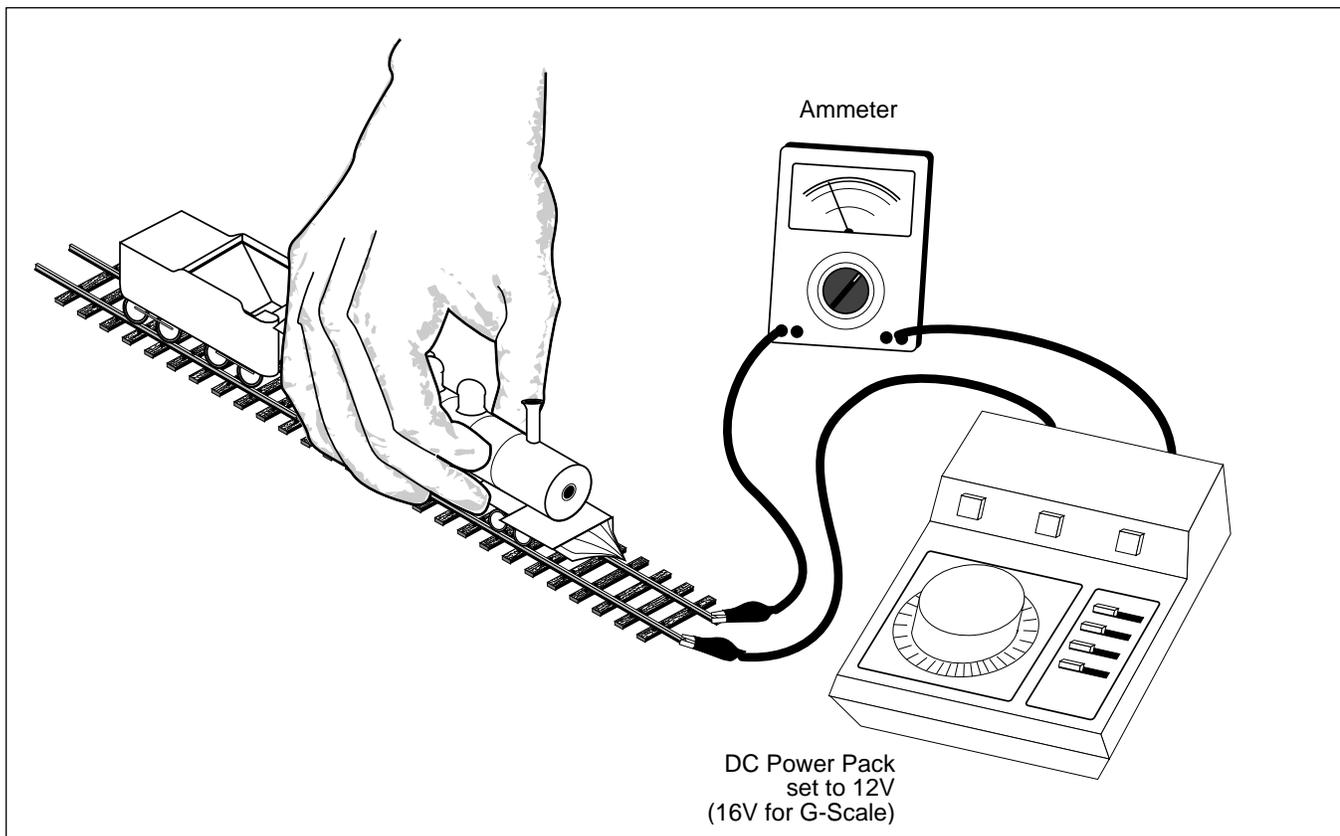

Figure 1 - Stall Current Test Setup
2. Connect a DC ammeter in series with one of the track feeders as shown in Figure 1. If your power pack has built-in meters, they may be used for this purpose.